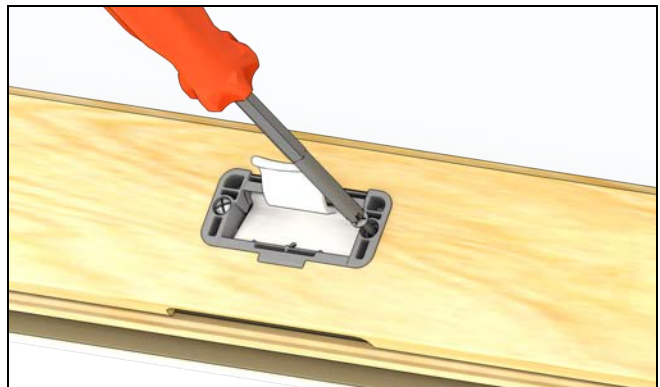

Figure 99
3. Remove the screws from the housing. See Figure 99.